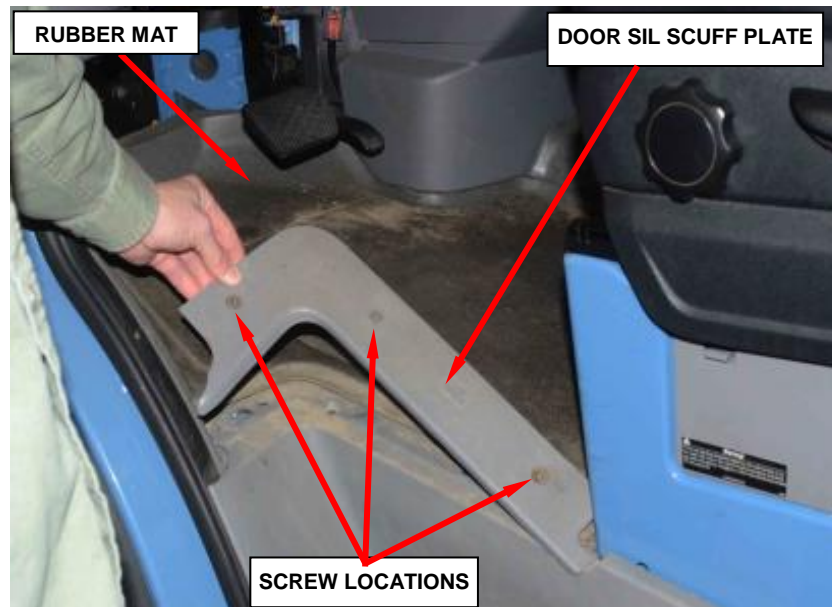

Figure 1 – Door Sill Scuff Plate
- a. Remove and save the three screws from the door sill scuff plate and remove the door sill scuff plate (Figure 1).
- b. Remove the rubber mat (Figure 1).